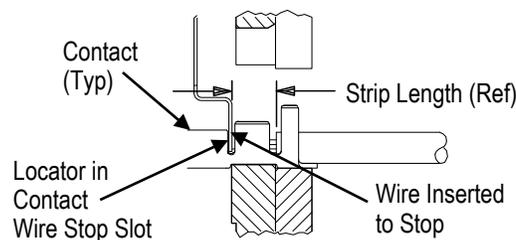

Figure 7
6. Insert the stripped wire into the wire barrel until it butts against the wire stop as shown in Figure 7.